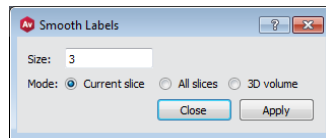

Figure 5.8: Smooth labels dialog
- In the *Segmentation* menu, select *Smooth labels...* (see Figure 5.8).